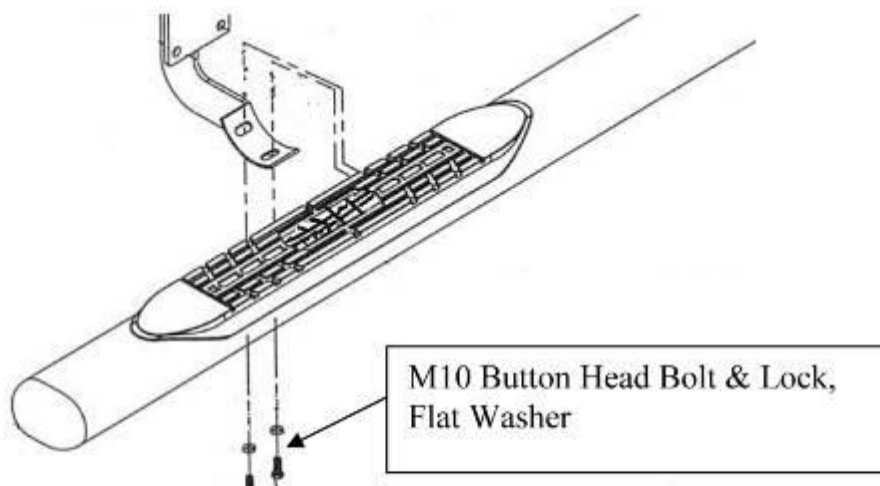

Figure 2. Installation View of Bracket & Bar
- Assemble with M10 button head bolts and M10 lock washers. 2 bolts per bracket, 6 bolts per bar (see Fig 2). Hand tightens.